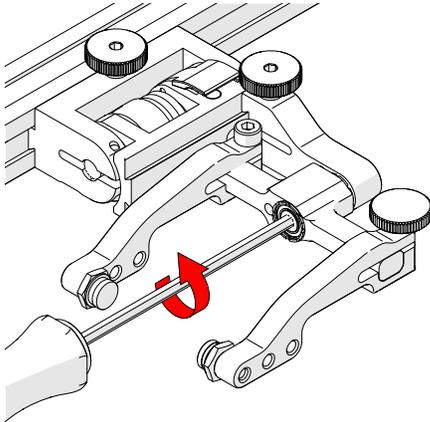

Fig. 164 - Unscrew yoke pivot screw
1. Unscrew the yoke from the swing arm (Fig. 164).